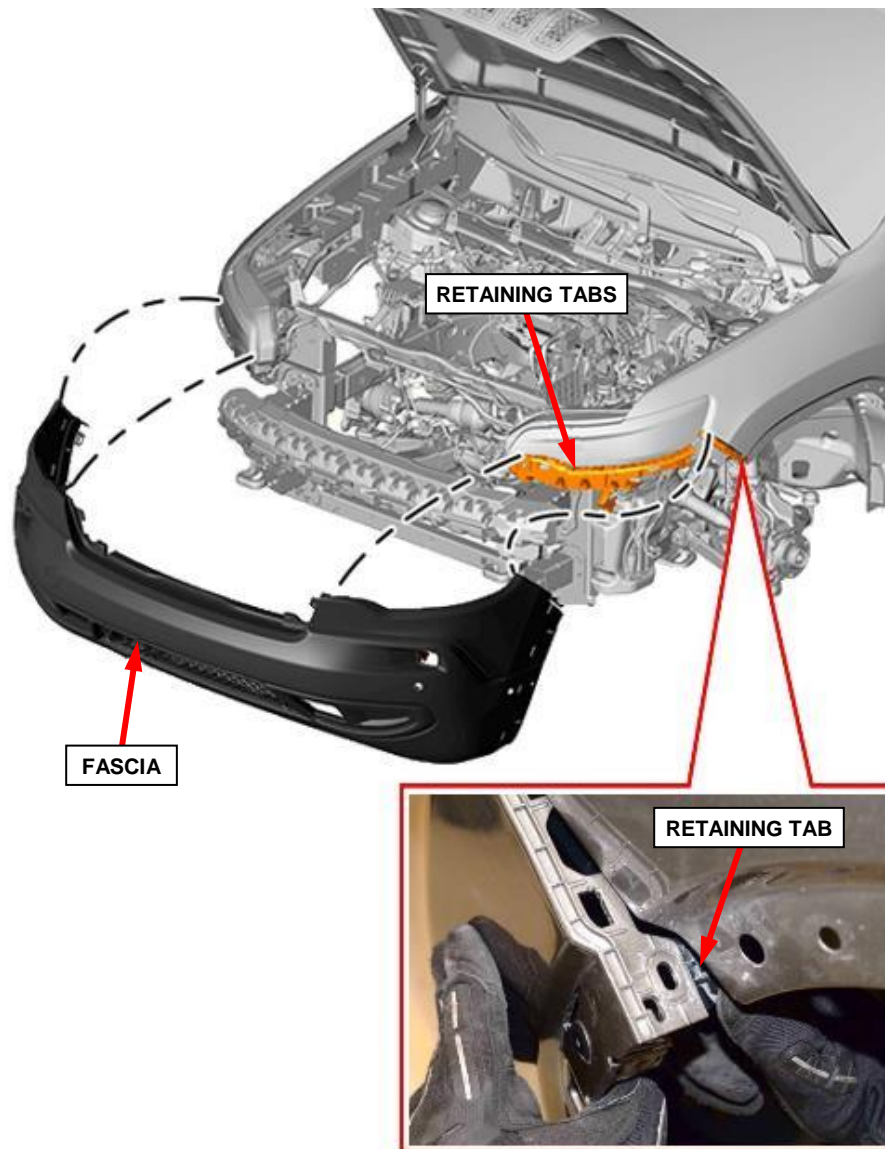

Figure 18 – Front Fascia
22. Carefully pull out on the upper and lower fascia sides to release the fascia retaining tabs at the fender and below the headlight. Repeat on the opposite side (Figure 18).
23. Remove the fascia from the vehicle (Figure 18).